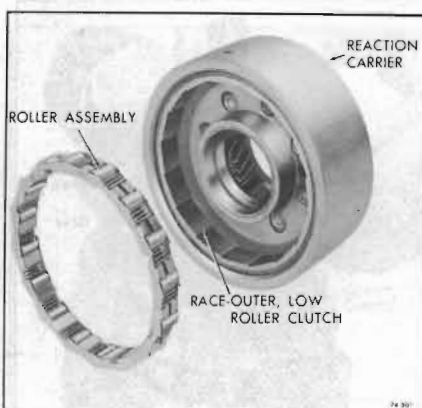

Figure 74-581
2. Inspect roller clutch outer race for scoring or wear. See Figure 74-581.